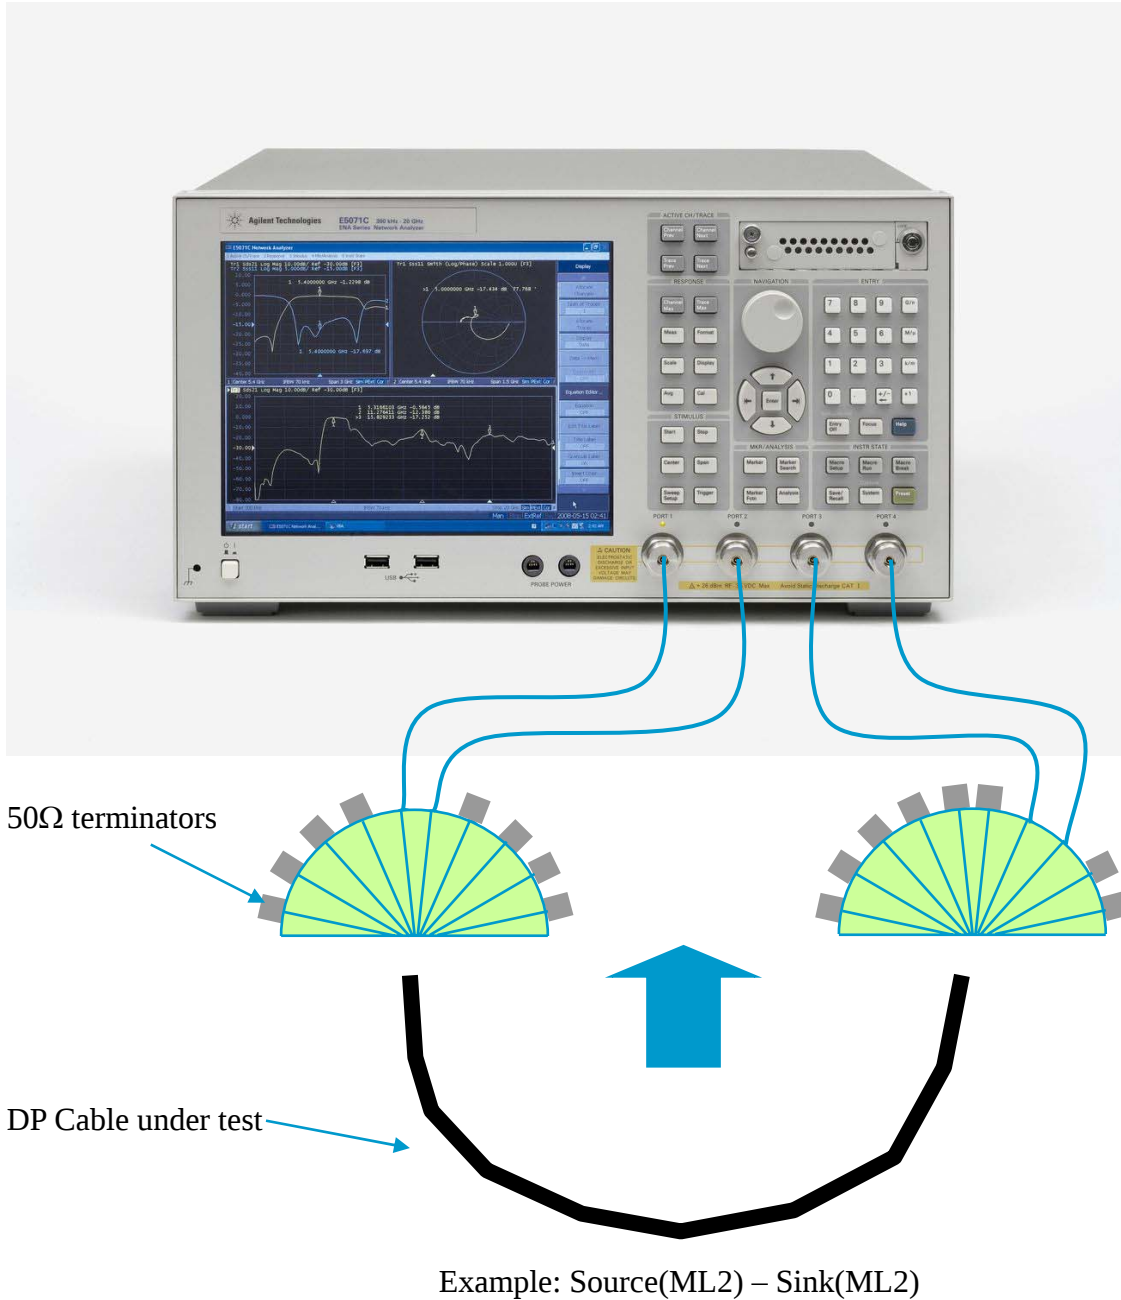

Figure 5.7.5 Connection Example for Intra-Pair Skew measurement
2. Connect the test fixture to the test port cables according to the **Figure 5.7.5**. Unused terminals should be terminated.